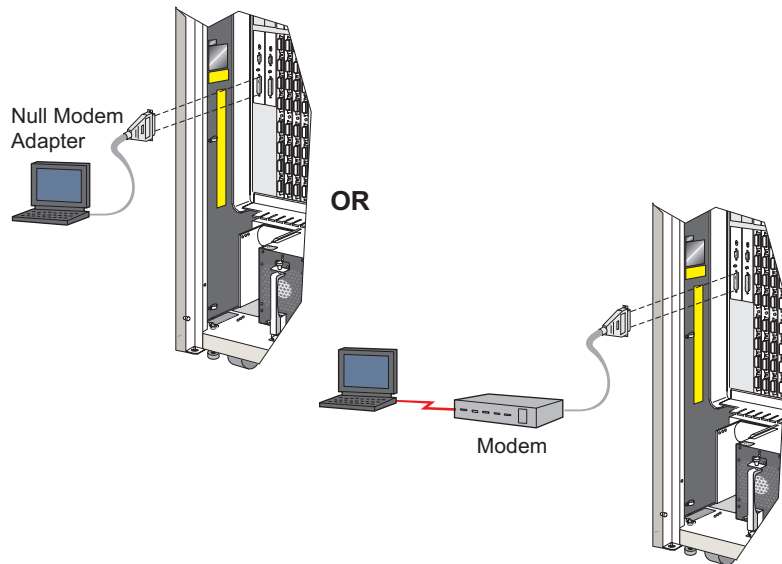

Figure E-1. RS-232 Maintenance Port on Token-Ring Card
2. Connect the terminal or PC to the 25-pin female DSUB connector on the Token-Ring (TKRG) controller adapter card using a 25-pin to 25-pin null modem adapter (P/N 83X9280). Refer to Figure E-1 for the connector location.